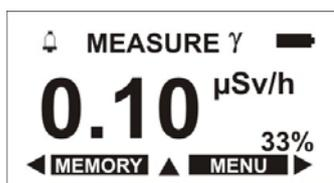

Figure 2.4
For checking workability it's necessary to close the filter 2 (Figure 1.1). Switch the instrument on according to the item 2.2.1. After switching on and termination of the checking process the instrument should enter the DER measurement mode "measurement γ ". The information should be displayed on LCD (Figure 2.4).
The instrument enters DER measurement mode automatically just after switching on or purposely from "MENU". For that it is necessary to choose the "MEASUREMENT γ " line and press the "SELECT" button. Being in the DER mode the instrument displays on LCD continuously measured values the photon radiation DER in " $\mu\text{Sv/h}$ ", "mSv/h" and the statistical error of the measured DER in percentage, Figure 2.4.